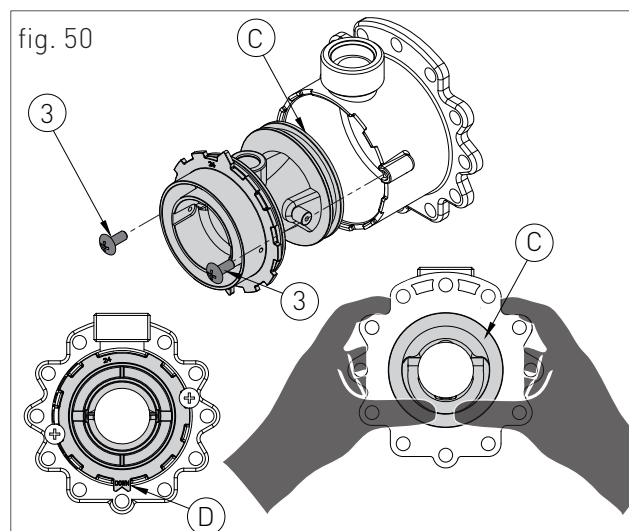

fig. 50
- › remove the two screws '3' (fig. 50) and apply pressure on the rear side of venturi 'C' (fig. 50);
- › replace the venturi with the one suitable for the type of supply gas (cod. 30-00230 for Gas A, cod. 30-00229 for Gas E), and make sure the tooth 'D' (fig.50) is adjusted downwards on the aluminium ring nut (see fig.50);